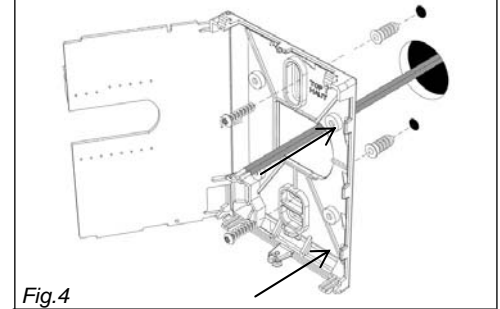

Fig.4
- 1- Swing open the thermostat PCB to the left by pressing the PCB locking tabs. (Fig. 4)
- 7- Insert screws in mounting holes on each side of the base. (Fig. 4)